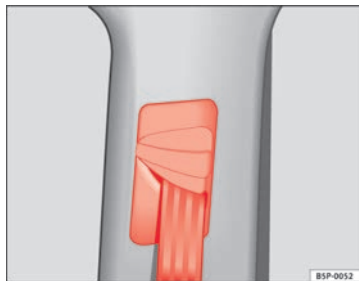

Fig. 17 Location of the belt height adjuster
- Press the upper part of the shoulder belt guide and hold it in this position ⇒ Fig. 17.